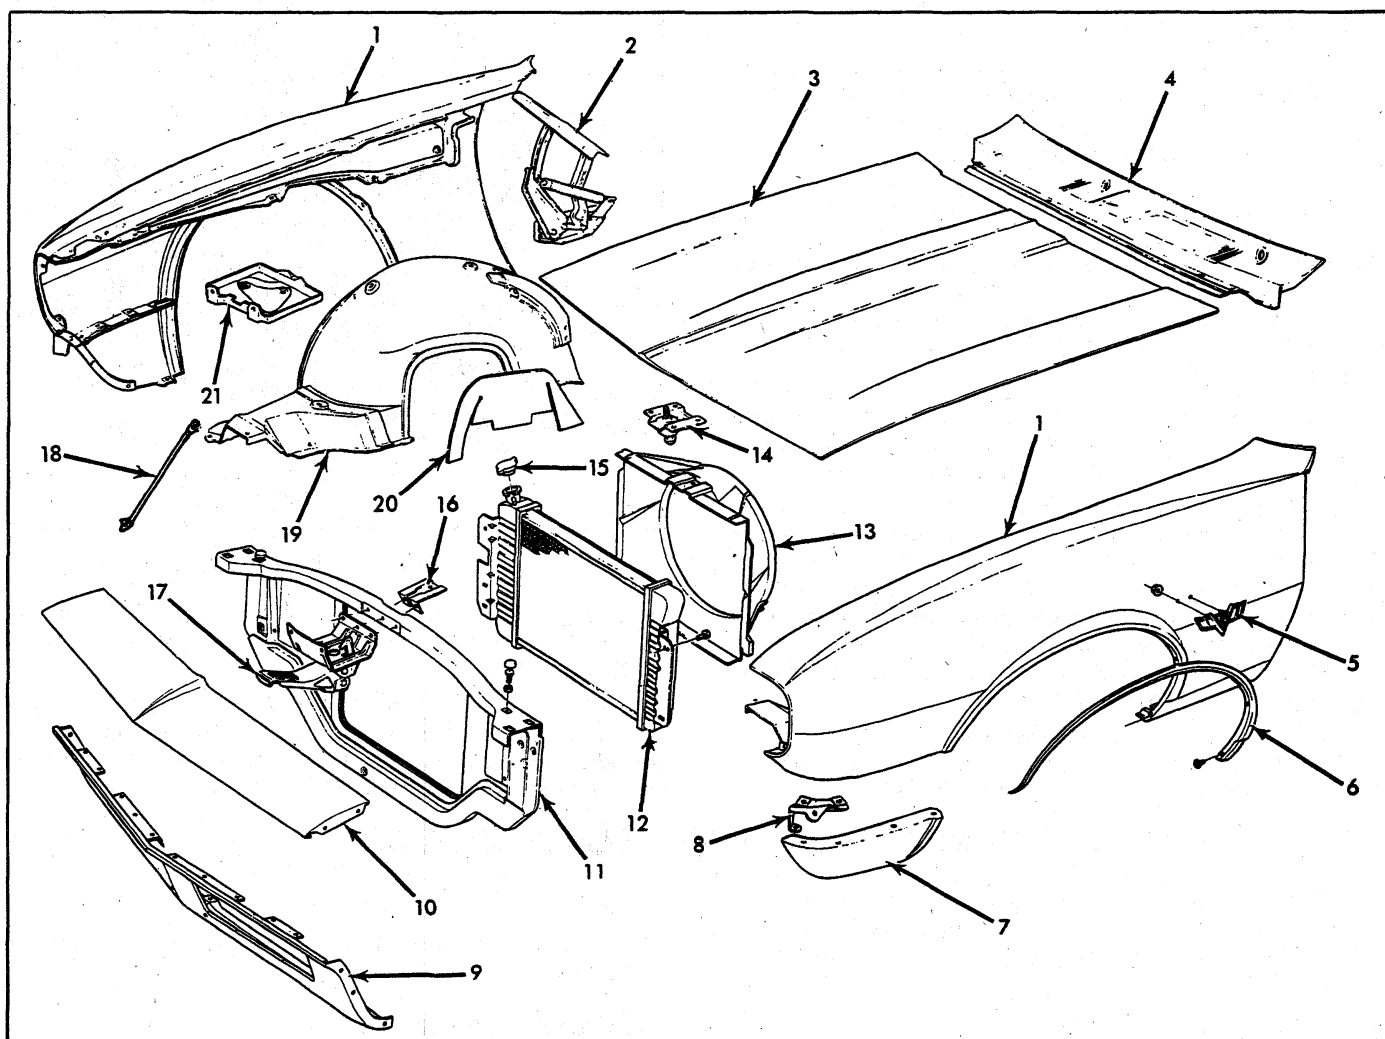

Fig. 32 - Front End Sheet Metal - Camaro
The Camaro sheet metal components are much the same as other Chevrolet passenger models as shown in Figure 32. The front end design is such that servicing of the fenders and skirts is most efficiently performed
3. Remove bolts securing brace to skirt and dash panel and remove brace (fig. 32).